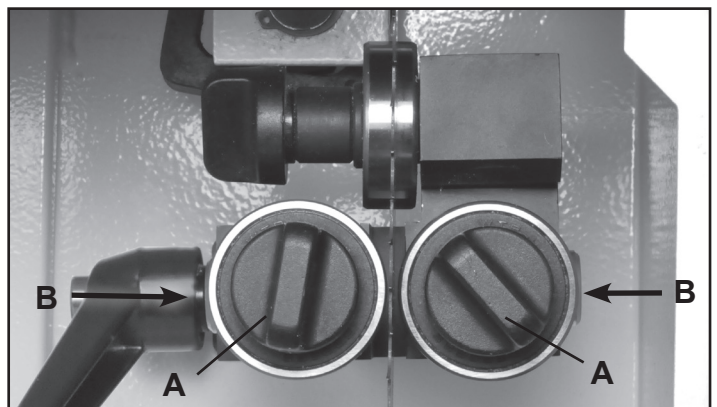

FIGURE 25
1. Position the right and left roller guides close to the blade. Loosen the front Lock Handles (#38A, Fig. 25, A). Move the guides towards the blade by pushing the ends of the Guide Shafts (#42A, B), or use the front lock handles to pull the guides towards the blade. Lock the guides in place. Fig. 25.